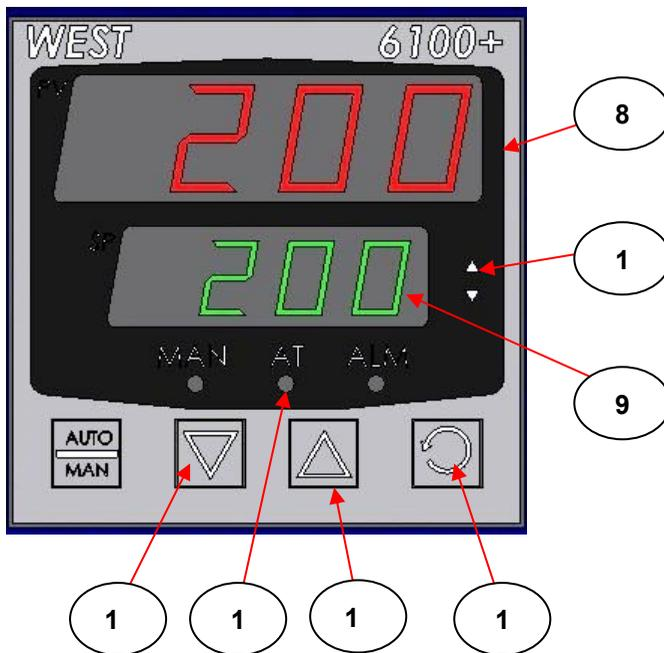

Fig 2. Temperature Controller Digital Display
- 5.5 When power is supplied to the 4000 Series temperature controller and the accessory is also connected, the controller undergoes a self-test routine. The routine follows the procedure below as indicated on the digital display of the temperature controller (see Fig 2).